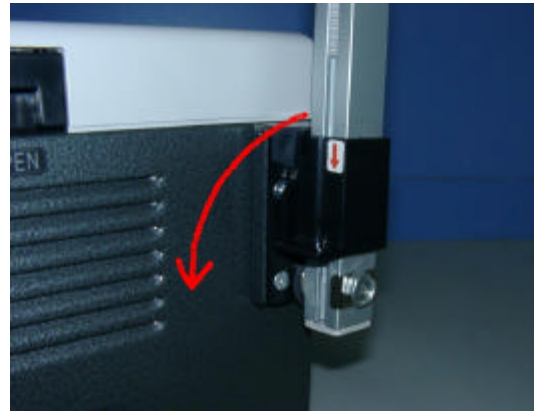

fig. 2
7. After projection, press down the Lock Lever to fold down the post to the stopper. (See fig.2)